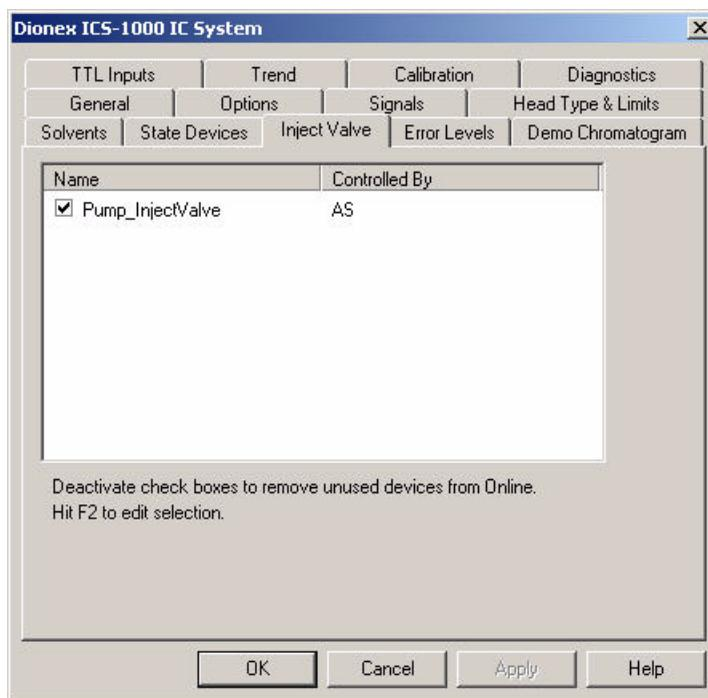

Figure 41. ICS-1000 Inject Valve Server Configuration Properties
- d. Verify that the **Pump_InjectValve** check box is selected and that **AS** is listed in the **Controlled By** column (see Figure 41).